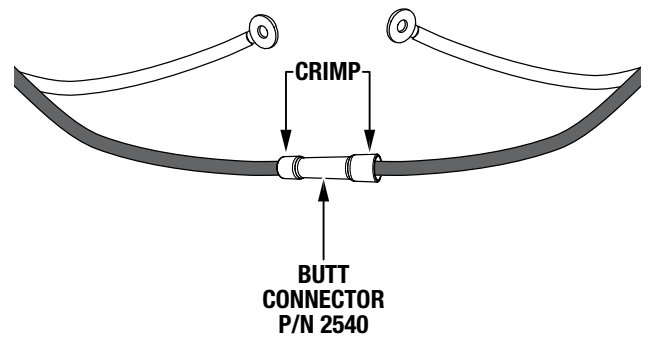

Figure 16. Wire Splicing (Butt Splice)
- Insert the two stripped, black wires into opposite sides of the butt connector (P/N 2540), and crimp both sides of the connector. See Figure 16.